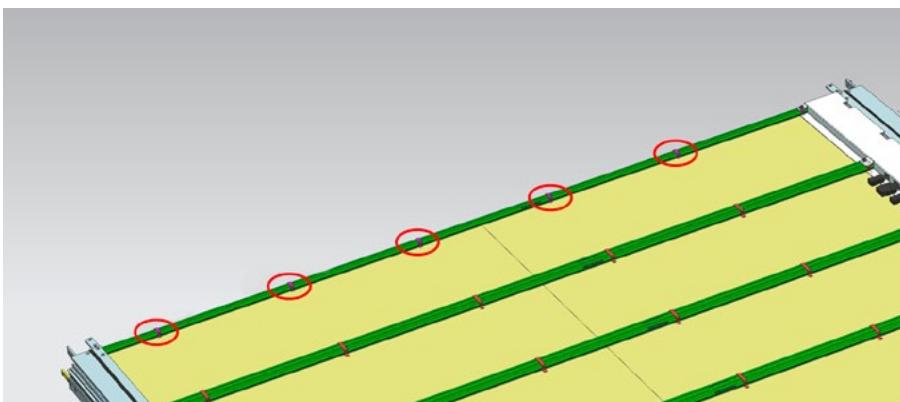

Figure 6: Remove the purple single crossbar clips from the Centre module.
- Remove the purple single crossbar clips from the Centre module, Figure 6.